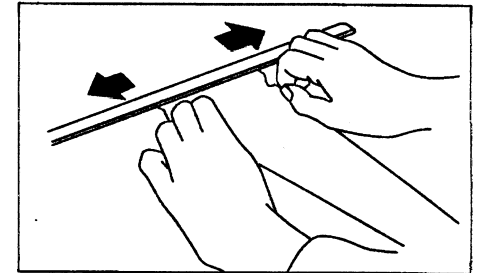

Fig. 10
1. Push the wire clips to one side and remove (Fig. 10).